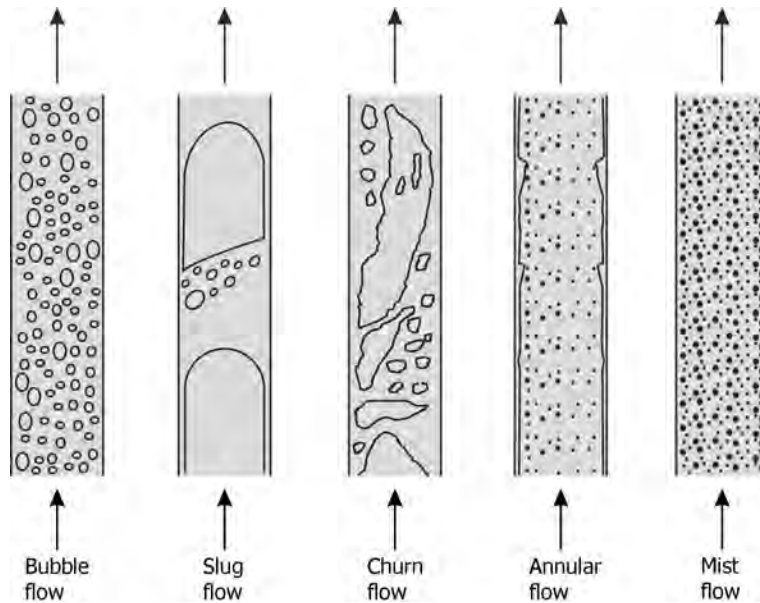

FIGURE 7.1 Flow patterns in gas–liquid flow in vertical pipes.
- Figure 7.1 illustrates the flow patterns.